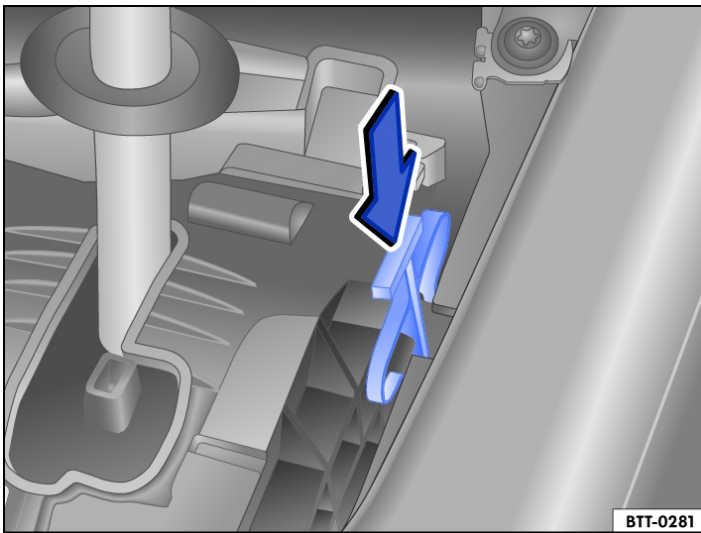

Fig. 2 Manually release selector lever lock (variant 2)
- OR: push the release lever in the direction of the arrow → *Fig. 2* and hold it in this position (variant 2).